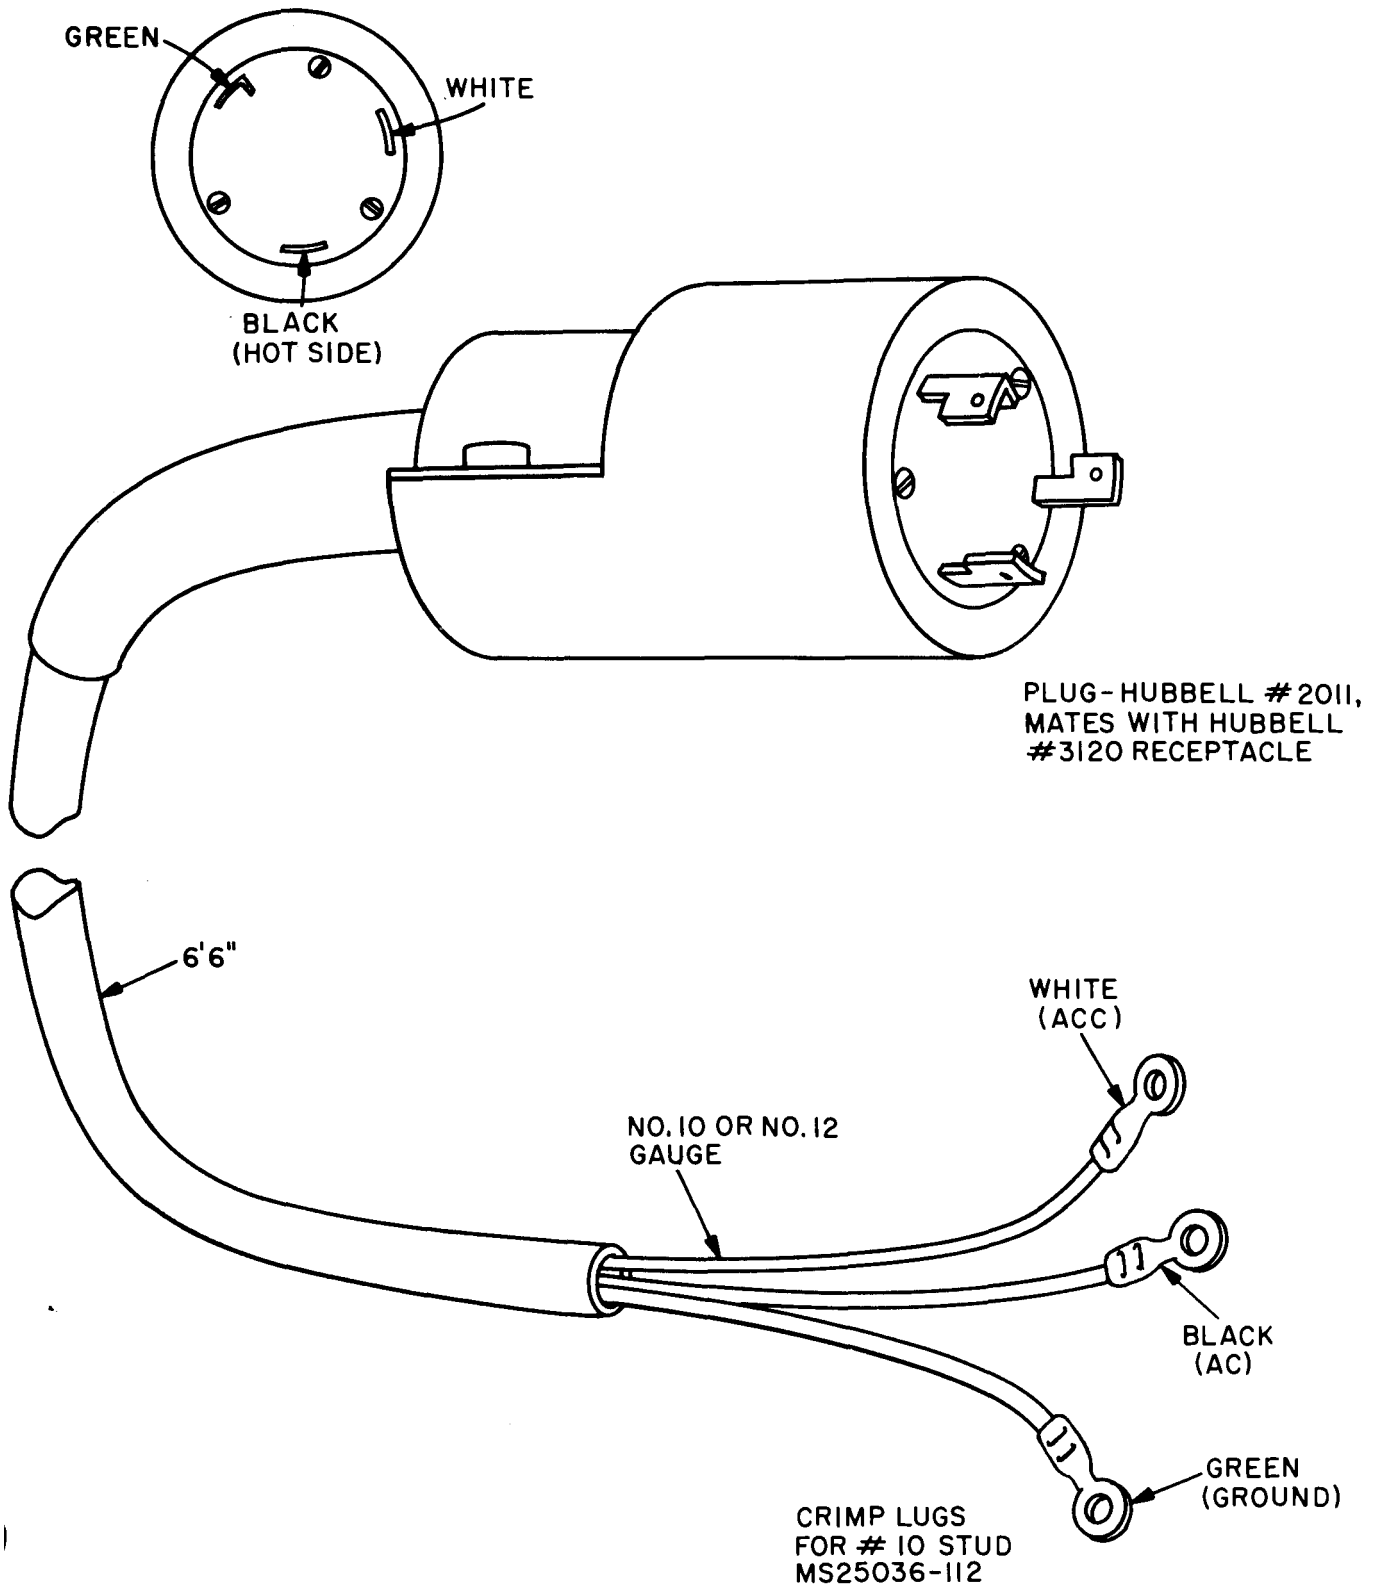

Figure 2-5. Power Cable
(Figures 2-5 and 2-6)
- a. Fabricate power cable as per Figure 2-5.
- b. Remove two screws (1) that secure the transparent barrier strip (2) to the 3-terminal barrier block CB1.
- d. Clamp the cable support (3) and cable bracket (4) to the cable as shown.
- e. Mount transparent cover (2) and cable support (3) and strain relief bracket (4) over the barrier block CB1 using the screws removed in step b. For adequate insulation, do not omit transparent barrier block transparent cover.